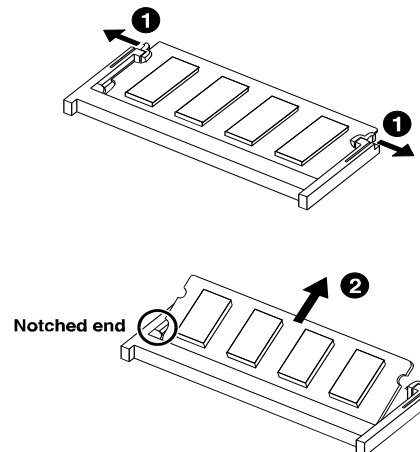

FIGURE 7-27. REMOVING THE DIMM
1. TO INSTALL THE DIMM, ALIGN THE DIMM's NOTCHED END WITH THE SOCKET's CORRESPONDING END AND FIRMLY INSERT THE DIMM INTO THE SOCKET AT AN ANGLE. (SEE FIGURE 7-27). THEN PUSH DOWN UNTIL THE RETAINING CLIPS LOCK THE DIMM INTO POSITION.